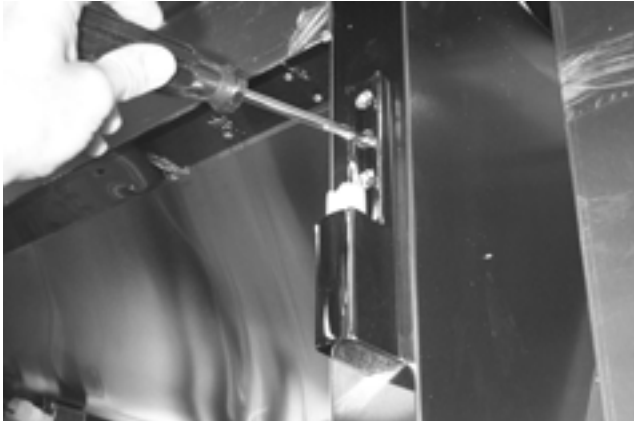

Figure 4-47
3. Remove the (3) three hinge mounting screws from each hinge on the cabinet front (Figure 4-47). Replace the hinge and reattach with the screws.